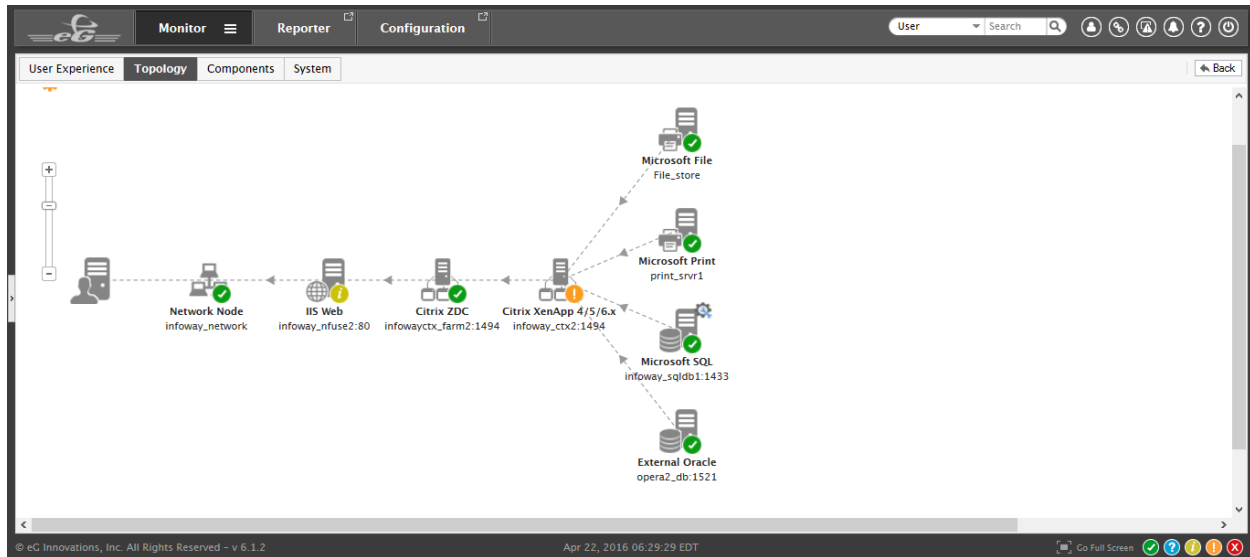
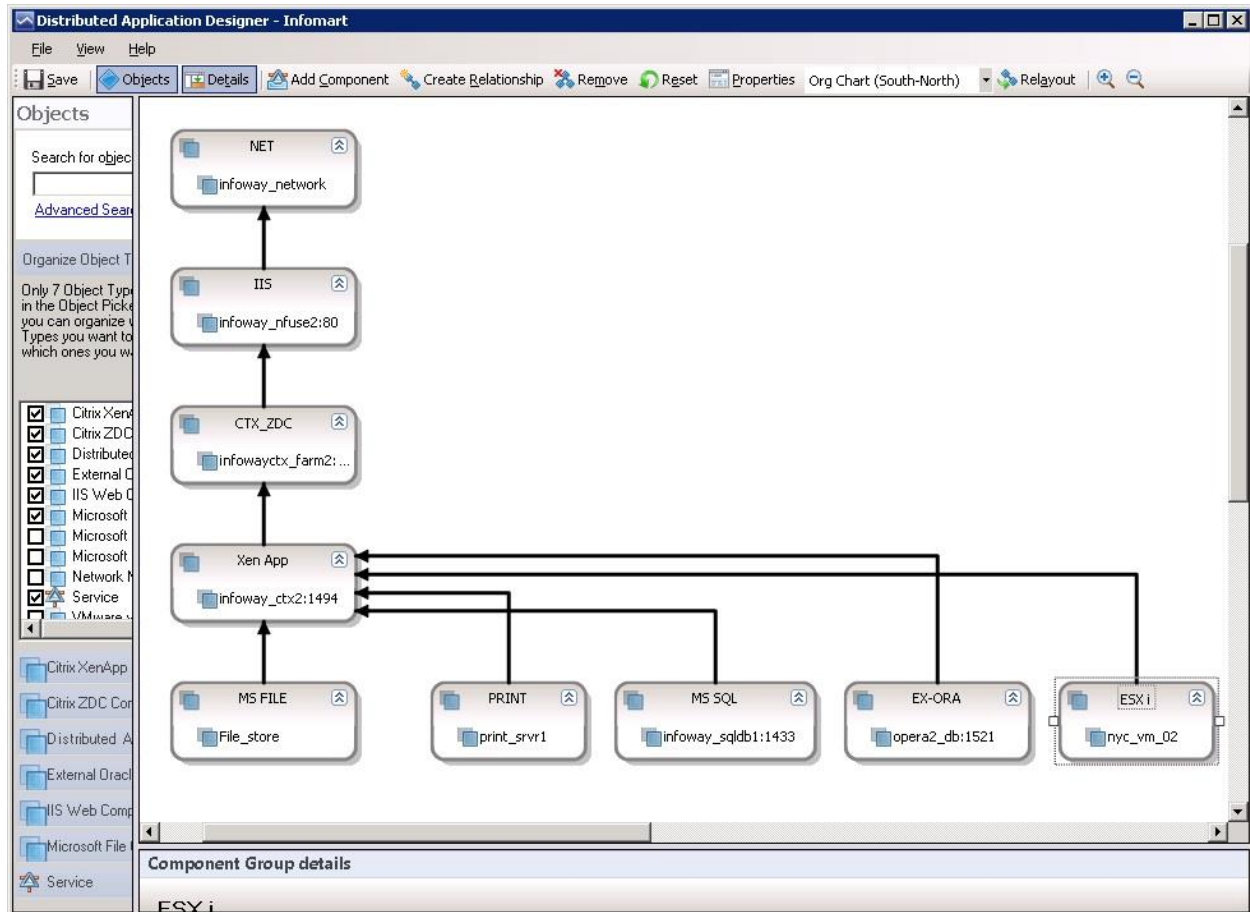

Figure 3.23: The topology of the *Infomart* service as viewed in the eG web interface
Figure 3.36: The fully-configured topology of the *Infomart* distributed application
To achieve this, you will have to login to the SCOM console and **recreate the topology of each business service that you want monitored**. To help you understand this process better, let us take the example of the *infomart* service. Figure 3.23 below depicts the topology of this service.
12. Likewise, proceed to add the other component groups and components as required by the *Infomart* application, and configure the same relationship between these components as depicted by the service topology preview of Figure 3.23. Figure 3.36 below depicts the final topology of the *Infomart* application.